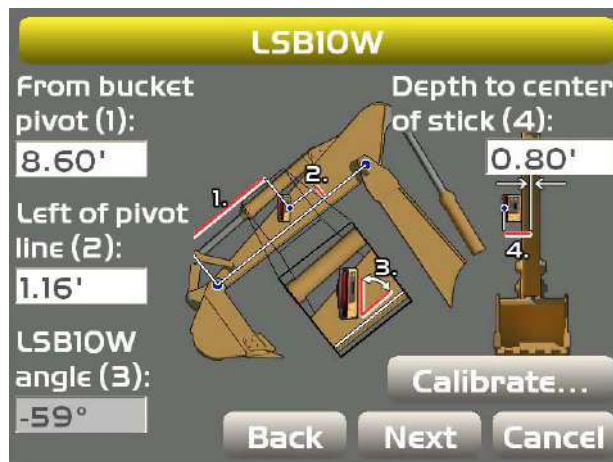

Figure 79: LS-B10W Laser Receiver Measurements
5. Enter the following measurements for the LS-B10W (Figure 79).
- **From bucket pivot** – enter the measurement for the distance from the along the projected line between the bucket pivot and stick pivot at the point where the LS-B10W is perpendicular to the projected line (Figure 79).
6. Make sure the LS-B10W Laser Receiver is vertical, and then tap **Calibrate** to determine the angle between the stick and the LS-B10W (Figure 79).